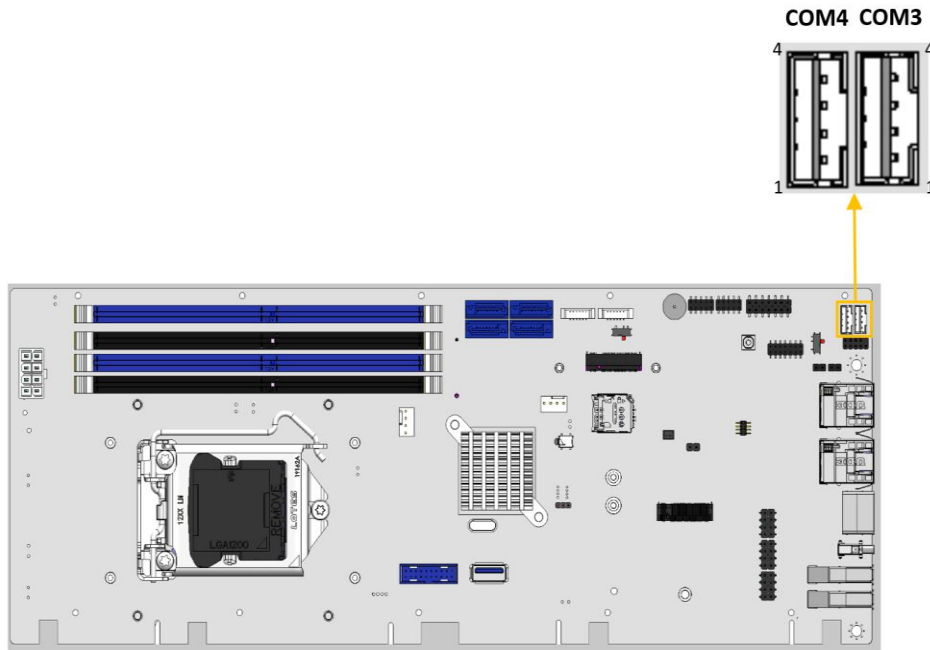

Figure 3-21: RS-422/485 Serial Port Connectors Location
- CN Location:** See Figure 3-21